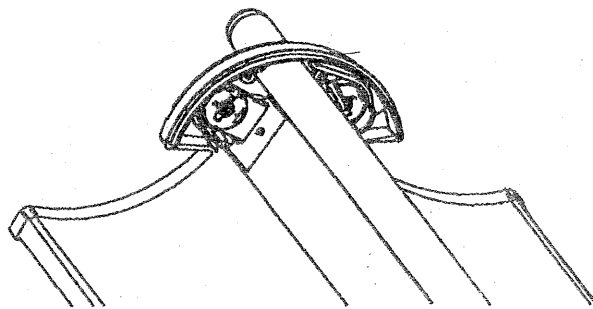

Figure 1
2. Remove lamps (if equipped) as shown in figure 1.
For T8 lamps: Twist and lift lamp. Slide end of lamp slightly through opening in end piece to allow lamp to be pulled out of fixture with ease. See Figure 1.